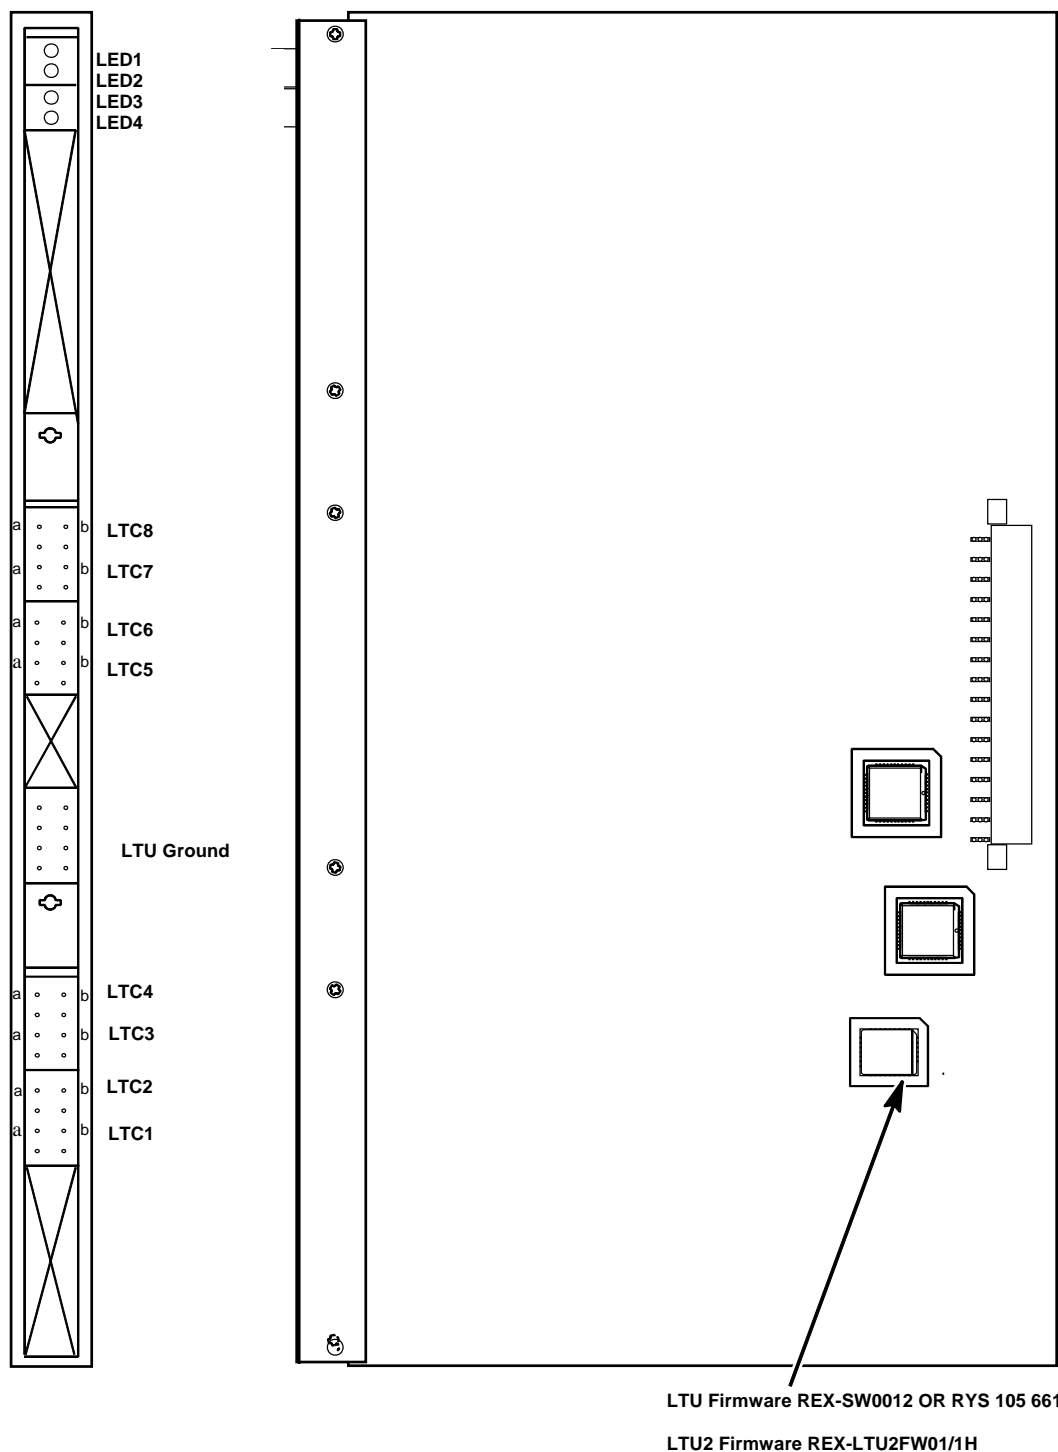

Fig. 14-1 LTU - REX-BRD0007 or ROFNB 157 02/6 and
The LTU contains the following field-exchangeable part (see Figure 14-1):
1. Insert the LTU gently into the card guide in its specified board position (See Figure 14-1).